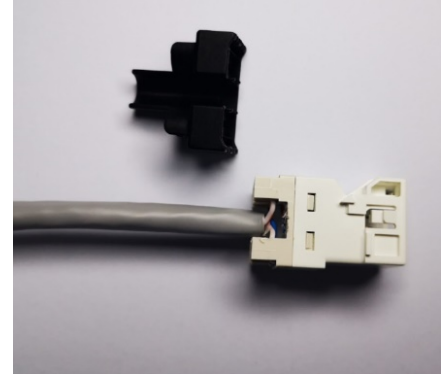

Figure 8
- b) Slightly move (wiggle) the jack back and forth while pulling in opposite direction. See Figure 8.